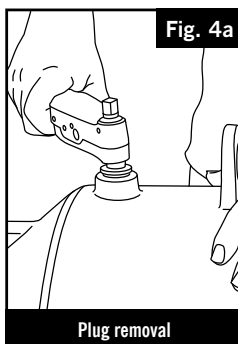

Fig. 4a
- 3) Each of the two clamp shells contain a $\frac{1}{2}$ " BSP tapped outlet for attaching of bleeding equipment if required, remove the plugs and attach the equipment if necessary. (FIG 4a/4b)